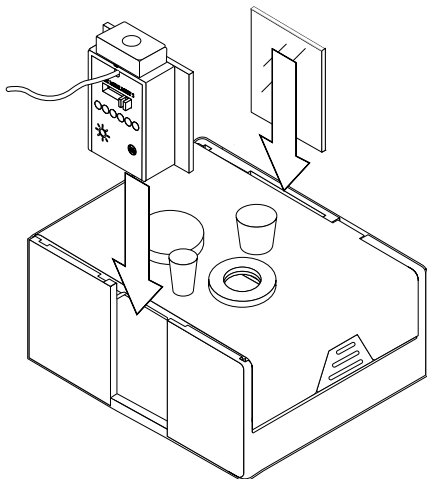

Figure 2. Insert the mirror and light.
3. Insert one of the mirrors into the slot in the chamber with the smaller side opening. The mirrored side should face inward towards the chamber, as shown in Figure 2.
4. Insert the LED light source into the slot in the chamber with the larger side opening, as shown in Figure 2. To ensure that more of the light has a chance to be absorbed by the sample, align the light source so the threaded hole faces upwards.